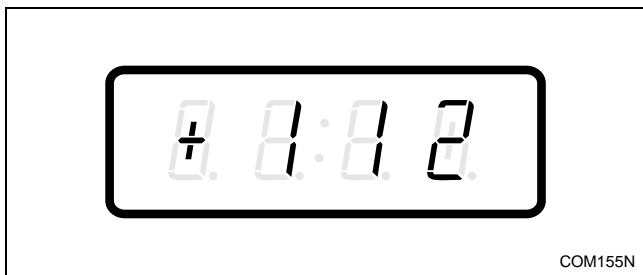

Figure 202
3. Press the DELICATES (+) or the COLD (-) keypad to scroll through the programmable options until “+112” appears in the VFD. Refer to *Figure 202*.